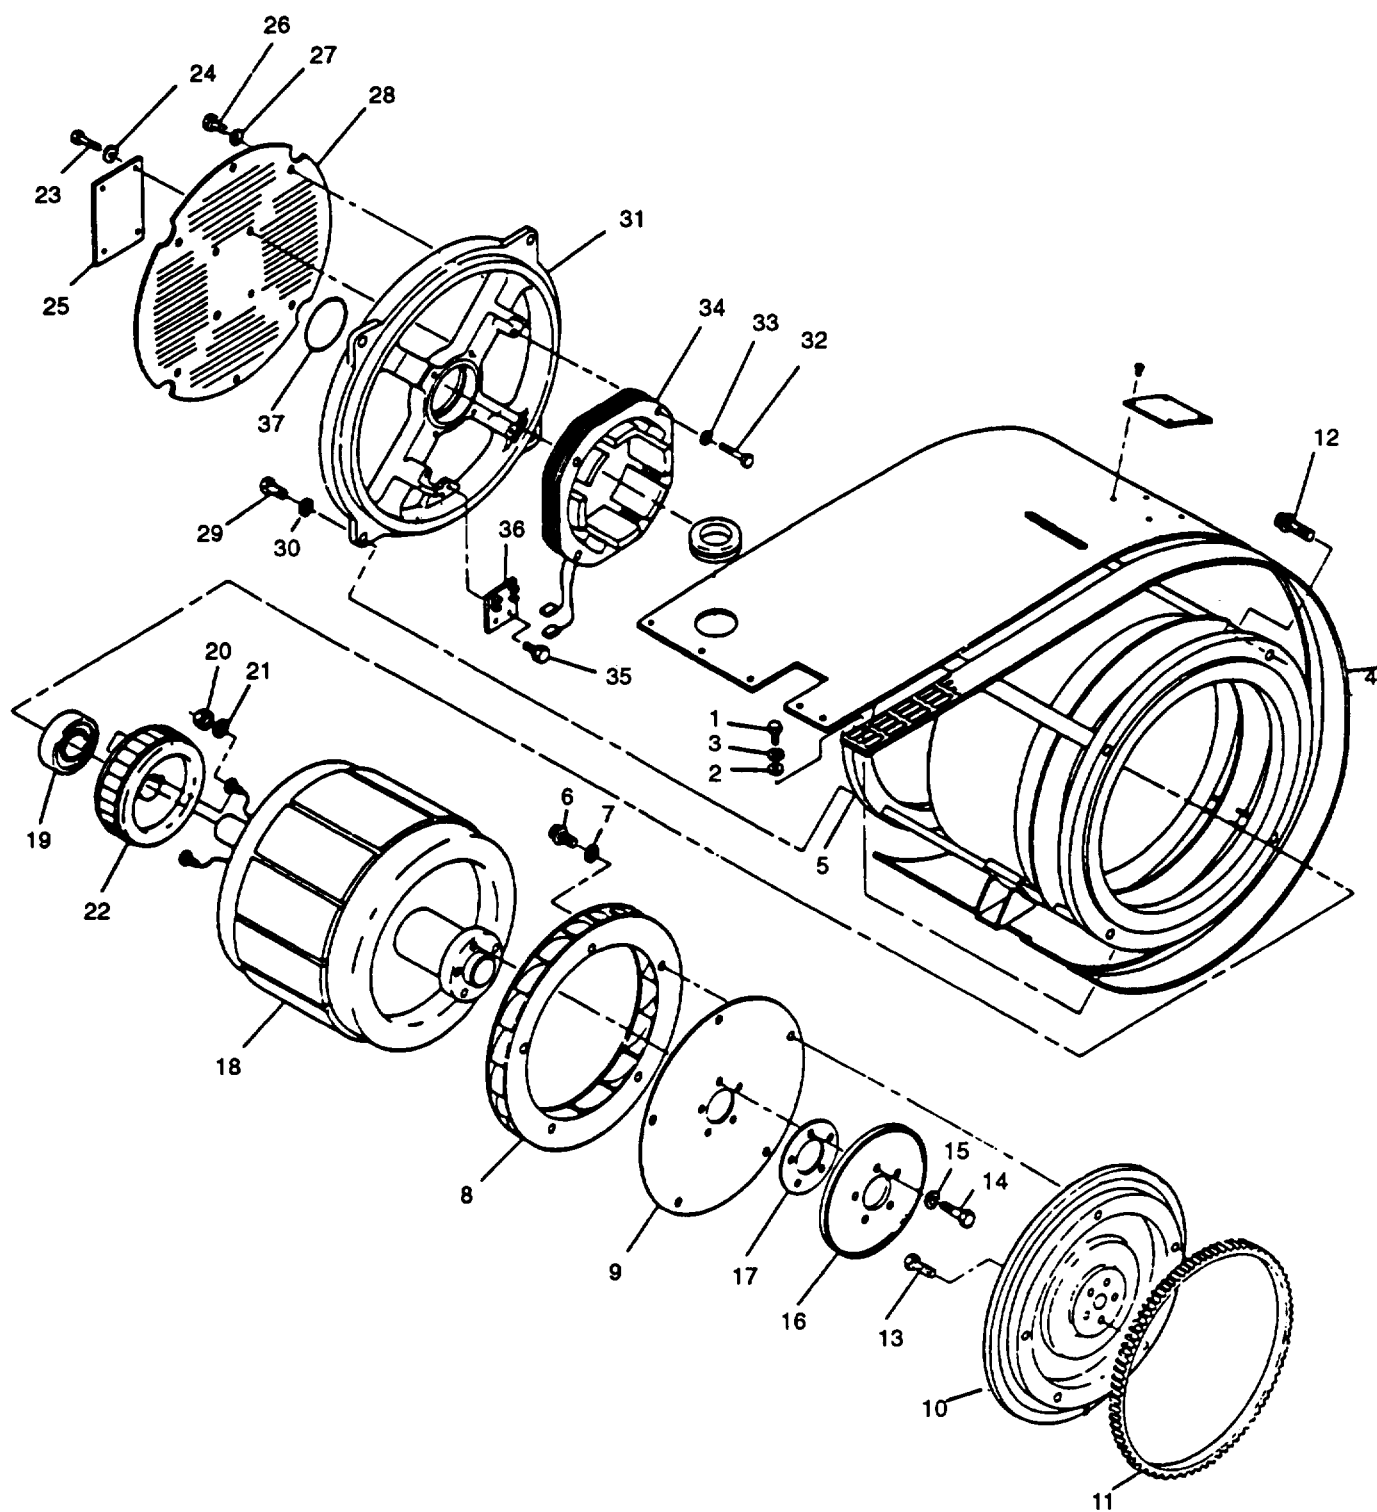

FIGURE 4-25. Generator Assembly (MEP-813A)
- e. Remove bolt (1, FIGURE 4-25), washer (2), lockwasher (3), and screen (4) from generator frame/stator assembly (5).
- a. Using overhead lifting device, carefully lift and position generator assembly on work table with end bell (31, FIGURE 4-25) resting on table.
- b. Remove bolts (14), lockwashers (15), retention disk (16), spacer (17), drive plate (9), and fan (8) from rotor assembly (18).
- d. Using gear puller, remove bearing (19) from rotor assembly (18).
- e. Tag and disconnect F1+ and F2- leads from rotating rectifiers by removing nuts (20) and washers (21).
- f. Using gear puller, carefully remove exciter rotor (22) from rotor assembly (18).
- h. Remove bolts (23), lockwashers (24), retention plate (25), bolts (26), lockwashers (27), and cover (28) from end bell (31).
- i. Remove bolts (29), washers (30), and end bell (31) from frame/stator assembly (5).
- j. Tag and disconnect exciter stator leads and AC voltage regulator leads from terminal block (36).
- k. Remove bolts (32), lockwashers (33), and exciter stator (34) from end bell (31).
- l. Remove bolts (35), terminal block (35), and packing (37) from end bell (31).
- a. Inspect end bell assembly (31, FIGURE 4-25) for cracks, torn packing (37), broken terminal board (36), and other damage.
- b. Inspect exciter stator (34) for broken windings, evidence of overheating, damaged insulation, and loose terminal ends.
- c. Inspect bearing (19) for looseness and evidence of overheating.
- d. Inspect exciter rotor (22) for broken windings, evidence of overheating, damaged insulation, and other damage.
- e. Inspect rotor assembly (18) for broken windings, evidence of overheating, damaged insulation, and loose terminal ends.
- f. Inspect frame/stator (5) for broken windings, evidence of overheating, damaged insulation, loose terminal ends, and damaged housing.
- g. Inspect drive plate (9) and retention disk(15) for bends, cracks, elongated mounting holes, and other damage.
- h. Inspect flywheel (10) for cracks, broken teeth, stripped threads, and other damage.
- i. Inspect generator fan (8) for cracks, bent, or broken blades and other damage.
- a. If ring gear (11, FIGURE 4-25) is damaged, place the flywheel (10) on a solid surface.
- b. Drive ring bearing gear (11) off with a brass drift and hammer.
- c. Heat new ring gear (11) to 300°F (148°C) using either heated oil, oven heat, or frame heat.
- e. Install ring gear (11) against shoulder of flywheel.
- b. Coat mating area between bearing (19, FIGURE 4-25) and end bell (31) with grease (Item 9, Appendix C).
- c. Install packing (37), terminal block (36), and bolts (35) on end bell (31).
- d. Install exciter stator (34) on end bell (31) with lockwashers (33) and bolts (32).
- e. Attach exciter stator leads and AC voltage regulator leads to terminal block (36) and remove tags.
- f. Install end bell (31) on frame/stator assembly (5) with washers (30) and bolts (29). Torque bolts (29) 29 to 31 ft-lbs (39 to 42 Nm).
- g. Install cover (28) and retention plate (25) on end bell (31) with lockwashers (24) and (25), and bolts (23) and (26).